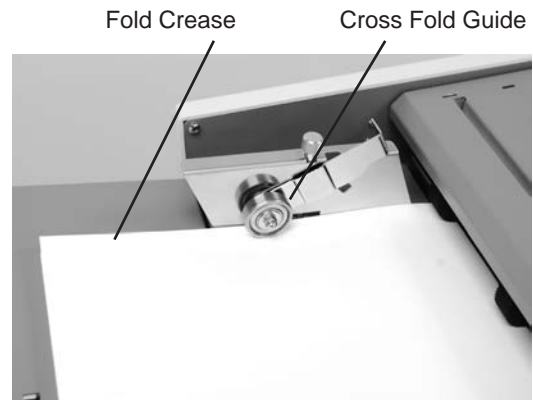

Fig. 48a
1. Load folded paper into the feed tray with the fold crease facing the non-operator side of the folder (Fig. 48a).